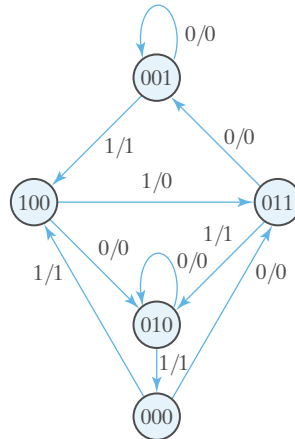

FIGURE P5.19
- 5.19 A sequential circuit has three flip-flops *A*, *B*, *C*; one input x_{in} ; and one output y_{out} . The state diagram is shown in Fig. P5.19. The circuit is to be designed by treating the unused states as don't-care conditions. Analyze the circuit obtained from the design to determine the effect of the unused states. (HDL—see Problem 5.41.)
5.29 Write a behavioral description of the state machine described by the state diagram shown in Fig. P5.19. Write a test bench and verify the functionality of the description.